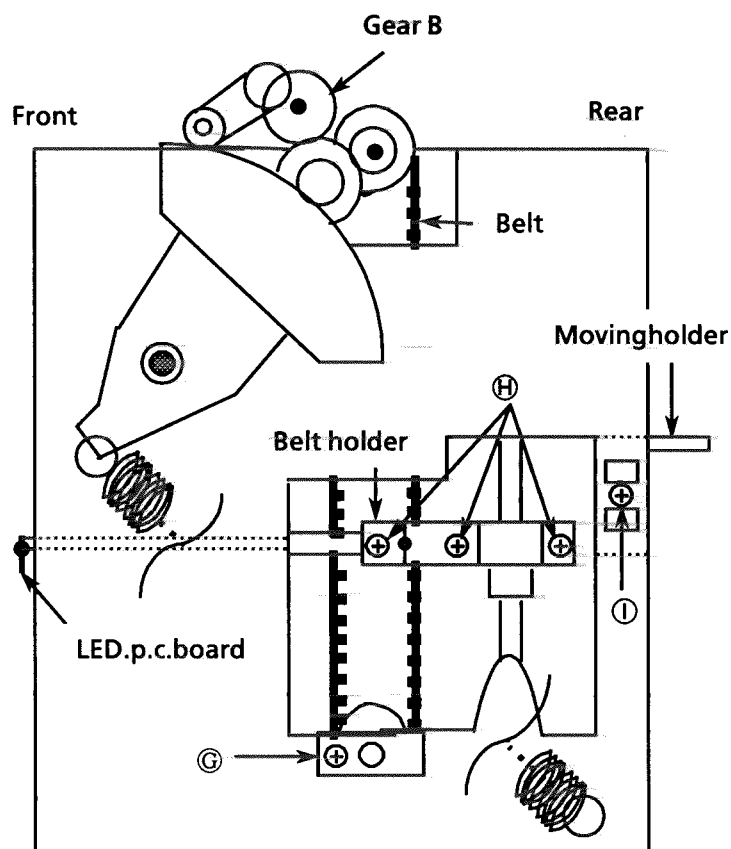

Fig9 Elevator mecha
1. Do the (1) (2) (5) (6) .
2. Remove 2 screws ③ securing the shaft of the both sides (Fig 9).
**(8) Loding mecha ass'y removal**
1. Do the (1) (2) (5) .
2. Rotate the Gear B so that the loading mecha can be set at the location shown in Fig.9 when you look the unit from its side.
3. Remove the screw ① holding the movingholder..
4. Remove 7 screws ④ securing the elevator belts of the both sides
5. Remove 7 screws ④ securing the elevator belts of the both sides